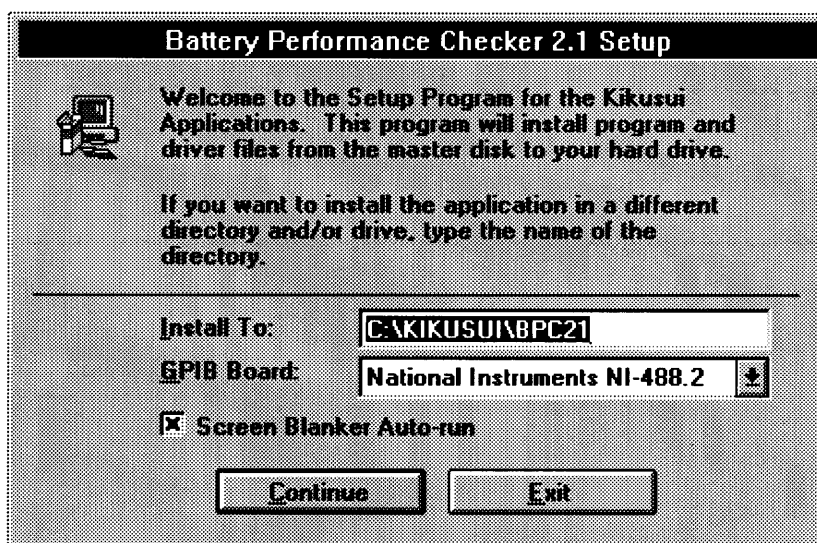

Figure 2-1 Installation Screen
- ⑤ Click on the "OK" button.
- ⑥ After a short time, the screen shown in Figure 2-1 will appear.